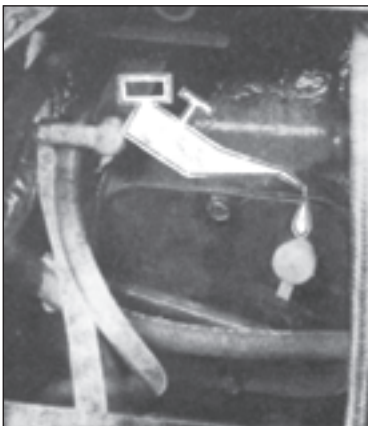

Fig. 163
20. Use a few drops of oil for the clutch engaging socket (approx. 10 drops). (Fig. 163).